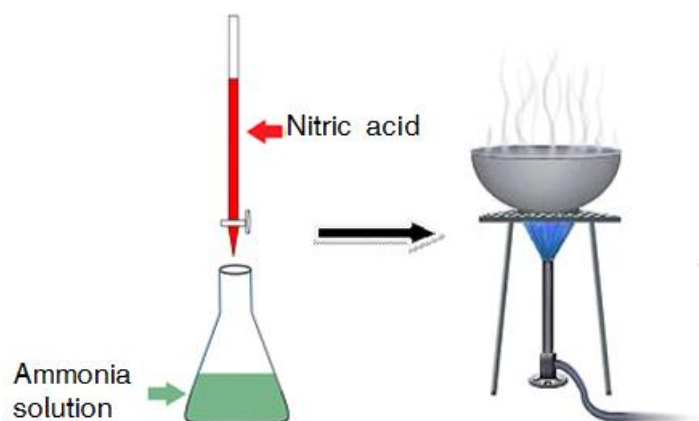

Figure13: preparation of ammonia nitrate
2. Fix a buret to the stand with a clamp as shown in figure 13.